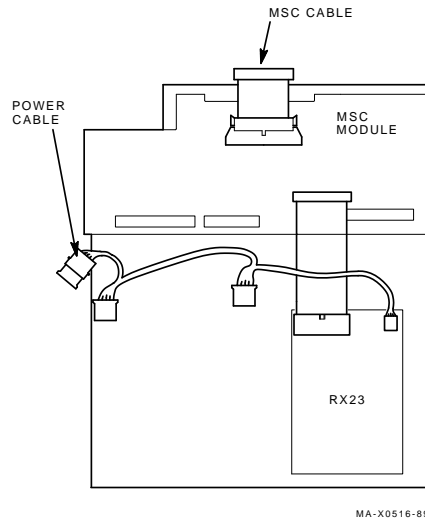

Figure 1-8 Connecting the RX23 Data and Power Cables
3. Connect the data and power cables to the RX23 and to the ST506/SCSI MSC module (Figure 1-8).